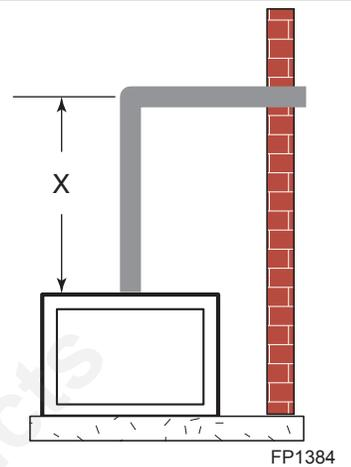

Figure 11 - Vertical Height Requirement
Place fireplace into position. Measure the vertical height (X) required from the base of the flue collars to the center of the wall opening. *Figure 11*